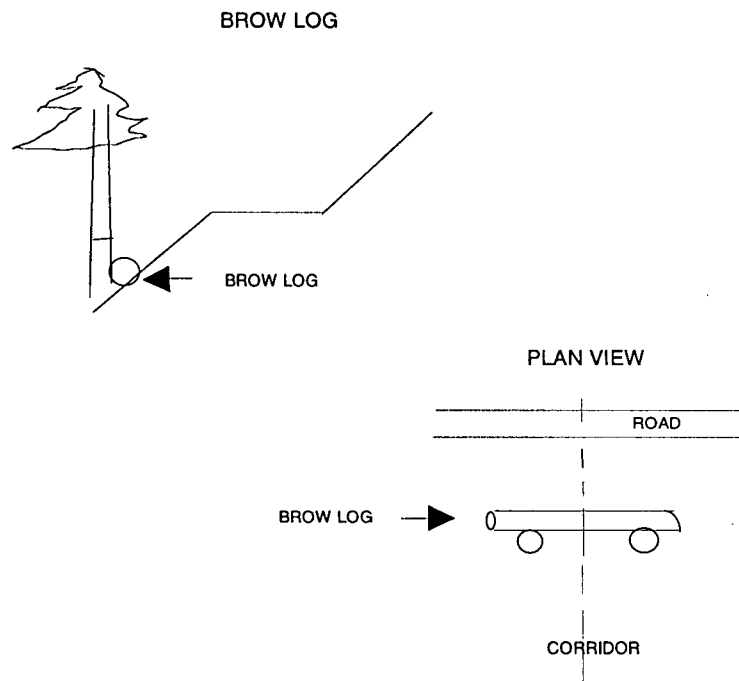

Figure 3. Use of brow log.
A. (Figure 3) When we locate corridors, guyline positions and tailtrees, we ribbon the trees that are close to the road. Then we high stump them and set a brow log. A boulder, a stump or a natural ledge can also be used to set the brow log or these features may mean a brow log isn't necessary. When the turn comes in, the end of the log hits the brow log and chokers are positioned for the chaser to unhook, normally about his waist level, and he doesn't have to climb down to unhook his turn. Some of the Crestbrook operators have mechanical devices that they've developed. Also, Skylead has developed a portable device; a series of disks holds small trees with limbs.